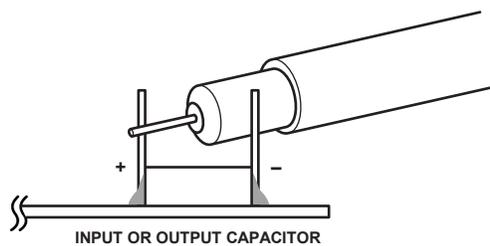

Figure 2. Scope Probe Placement for Measuring Input or Output Voltage Ripple
9. When measuring the output or input voltage ripple, do not use the long ground lead on the oscilloscope probe. See Figure 2 for the proper scope probe setup. Short, stiff leads need to be soldered to the (+) and (-) terminals of an output capacitor. The probe's ground ring needs to touch the (-) lead, and the probe tip needs to touch the (+) lead.